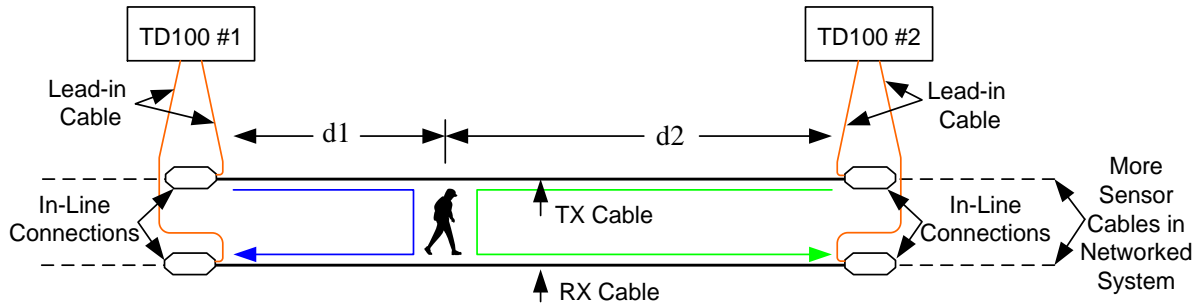

Figure 2. System E2EC
The basic concept behind E2EC is illustrated in Figure 2.
The leaky coaxial sensor cable is a standard coaxial cable with an aperture or a continuous slot in the outer conductor to allow Radio Frequency (RF) energy to couple between the signal traveling inside the cable to a surface wave traveling outside the cable but bound to the cable. There are two transmitters and two receivers in each processor - one TX/RX pair looking left and the second TX/RX pair looking right. The “Blue” trace in Figure 2 shows the TX 1 from TD100 #1 propagating down the cable to illuminate the intruder.